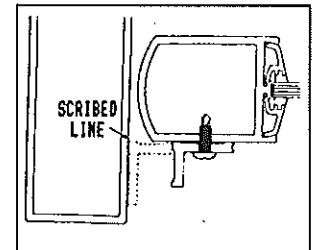

Fig. 4
2. With the door wedged to its desired inset depth, scribe a line on the frame exactly in line with the face of the door (Fig. 4).
1. Turn the "L"-shaped base end-over-end so that the long leg of the "L" is against the face of the door, and the corner is on the scribed line on the frame and the top end flush with the top of the door. (Fig. 4). Use 'C' clamps (if available) to hold the base in place.